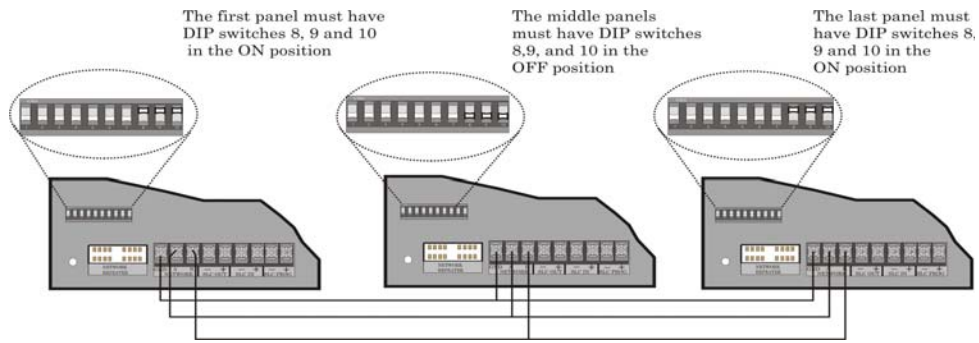

Figure 5-2 DIP Switch Terminations Settings for Direct Connect Wiring Option
2. Make the network wiring connections. The cable used must be shielded twisted pair 18 gauge or larger wire. See Figure 5-2 for the DIP switch termination settings for Direct Connect wire option. Run one of the twisted pair wires from the NETWORK A terminal on one panel to the NETWORK A terminal on the next panel. Use the other wire of the twisted pair to connect the NETWORK B terminals together. Run the network ground connection using the twisted pair shield between the NETWORK GND terminal on both panels. Repeat this for each additional panel until all A, B and GND terminals are wired together as a BUS.
3. Configure the network terminators. The panels at both ends of the network bus must have DIP switches 8, 9, and 10 set to the "ON" position. All panels that are not at the BUS ends must have the terminators set to the OFF position. See Figure 5-2.